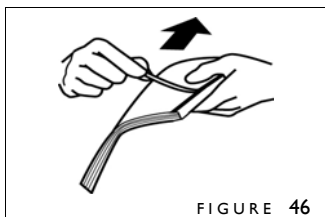

FIGURE 46
2. Peel off the thin release paper (figure 46) from the **front** of your bound book block,